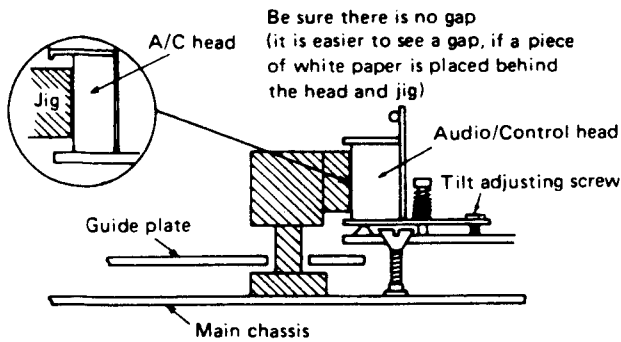

Figure 1-16.
2. Undo the tilt adjusting screw ⑥ with a philips screwdriver.
3. Remove the screw ⑤ (3P+8S) with a philips screwdriver.
4. Undo the audio/control head screw ④ with a philips screwdriver: pay attention to the spring between the guide plate and the audio/control head screw.
7. Adjust the audio/control head tilt angle as shown in Fig. 1-16.
2. Set the tilt angle of the audio/control head as shown in Fig. 1-16.